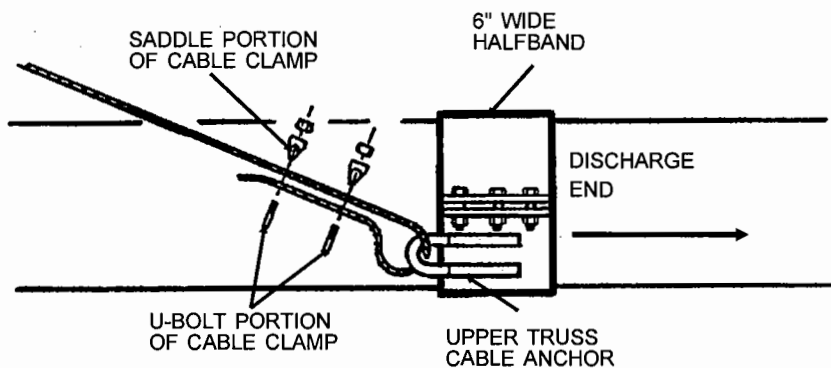

FIG. 22
- Step 7. Mount the upper truss cable anchors to auger tube using a 6" wide halfband and six 3/8" x 1 1/2" long (grade 5) hex head capscrews and nylon locknuts. **NOTE:** The upper truss cable anchor is mounted on the under side of the tube. See Fig. 22 on page 24.